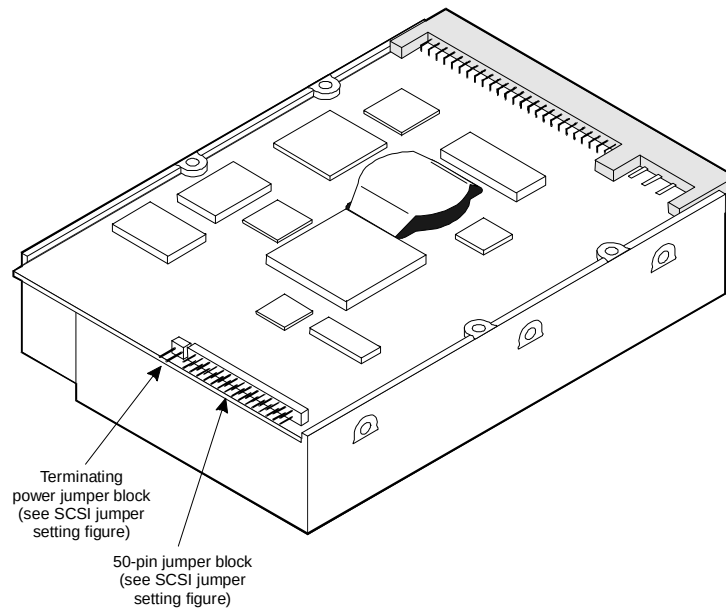
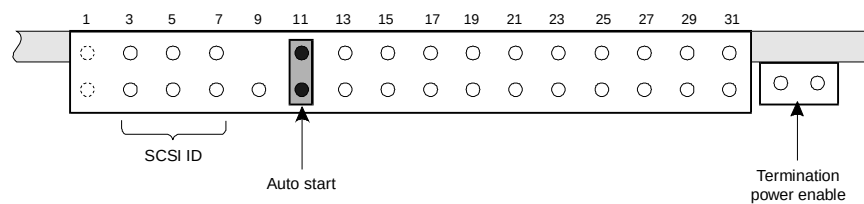
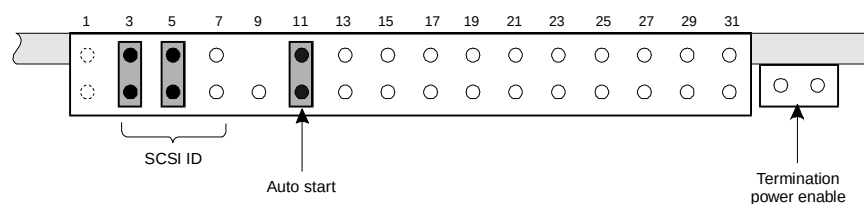

Figure B-18. Jumper Locations on the 2-Gbyte SCSI Hard Disk Drive (Comcode 407340942)
Figure B-19. Jumper Settings for the First 2-Gbyte Disk Installed; Bay 1, SCSI ID = 0
Figure B-20. Jumper Settings for the Second 2-Gbyte Disk Installed; Bay 3, SCSI ID = 6
- Figure B-18 shows the location of the jumpers on the 2 Gbyte SCSI hard disk drive (Comcode 407340942). Figure B-19 and Figure B-20 show the jumper settings.